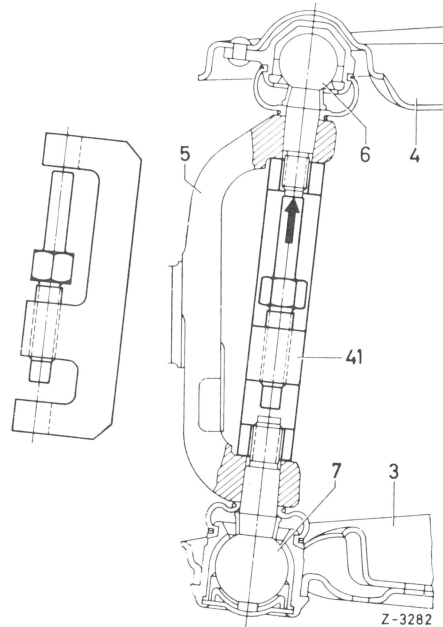

Fig. 6
3 Unscrew hex. nut on guide joint (6) and on supporting joint (7). Remove guide joint from steering knuckle with remover (41) (Fig. 6).